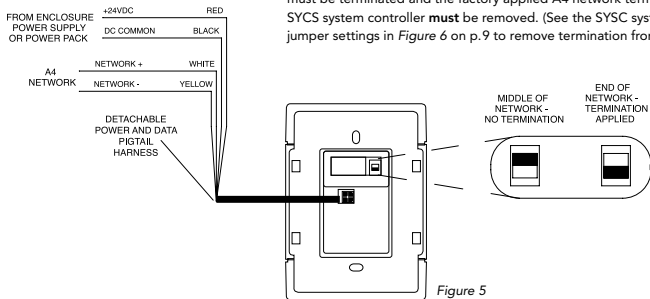

Figure 5
(2) #16 AWG conductors for power and (1) EIA-485 approved twisted and shielded pair for data signal. Approved cables are Synergy SYA CABLEA4 (four conductors) or (1) Belden 3105A (2-wire, twisted and shielded pair) and (2) #16 AWG (or larger) conductors, supplied by others.
7. See *Figure 5* on p.8 for detailed interconnect wiring of SYGS station network.
The A4 network must be properly terminated for network operation. The device residing at each end of the network **MUST** be terminated. The SYSC system controller is normally located at one end of the network and ships from the factory with termination activated. If an SYGS station is at the end of the A4 network, it must be terminated. (See *Figure 5* for details)